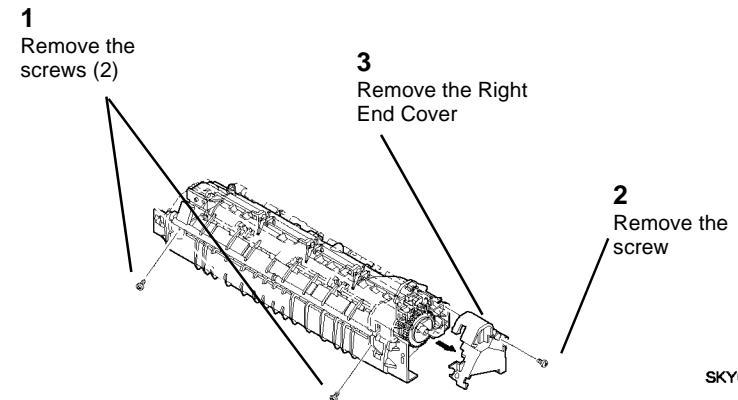

Figure 1 Removing the Right End Cover
5. (Figure 1): Remove the Right End Cover and open the assembly.